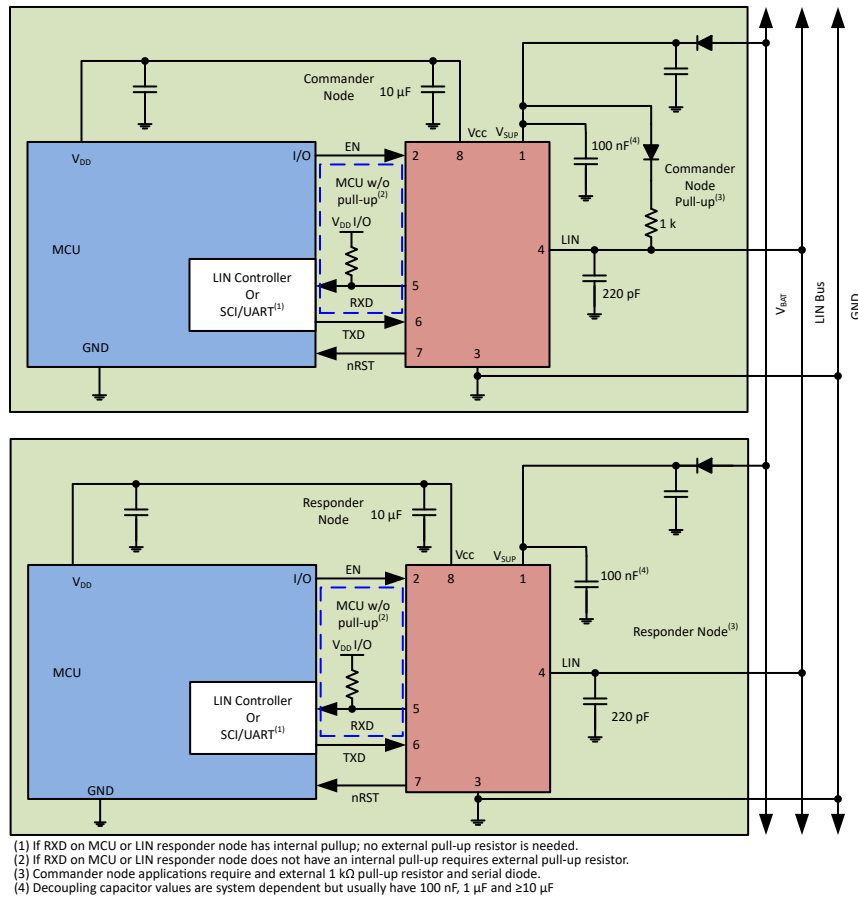

图 10-1. Typical LIN Bus
The device comes with an integrated 45 kΩ pull-up resistor and series diode for responder node applications. For commander node applications, an external 1 kΩ pull-up resistor with series blocking diode can be used. 图 10-1 shows the device being used in both commander and responder node applications.
- **Pin 2 (EN):** EN is an input pin that is used to place the device in a low power sleep mode. If this feature is not used, the pin should be pulled high to the regulated voltage supply of the microprocessor through a series resistor, values between 1 k Ω and 10 k Ω . Additionally, a series resistor may be placed on the pin to limit current on the digital lines in the event of an over-voltage fault.
- **Pin 4 (LIN):** This pin connects to the LIN bus. For responder node applications, a 220 pF capacitor to ground is implemented. For commander node applications, an additional series resistor and blocking diode should be placed between the LIN pin and the V_{SUP} pin. See 图 10-1